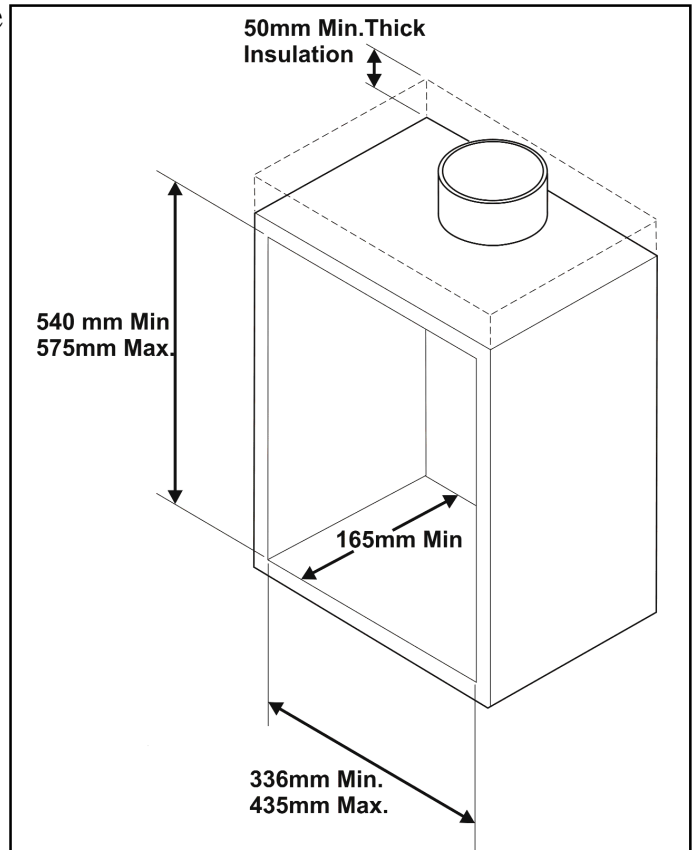

Figure 2. Metal flue box
3.2.2 To a fireplace incorporating a metal flue box conforming to BS EN 1856 part 1 or BS715 with a minimum internal depth of 165mm. Incombustible mineral wool insulation of not less than 50mm thickness must be applied to the top surface of the firebox (See figure 2) and it must stand on a non-combustible hearth (See figure 1).
The whole of the top surface of the metal flue box must be covered with a minimum 50mm layer of mineral wool or equivalent insulation (See figure 2).